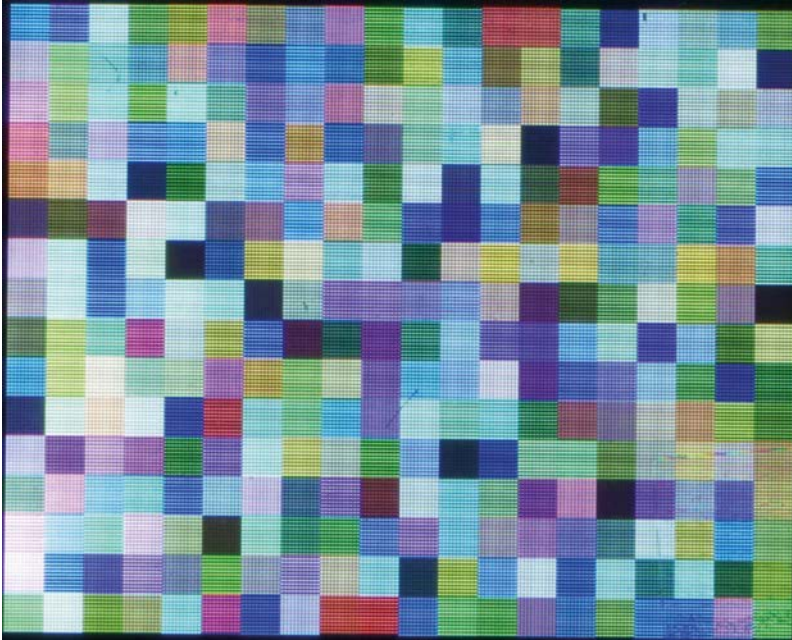

Figure 5-14: Random solid rectangle pattern.
You can use **fillRectangle()** to draw random solid squares. You can find that in **prog06.ino** of the code bundle of this chapter (5). That sketch produces output as shown in Figure 5-14: